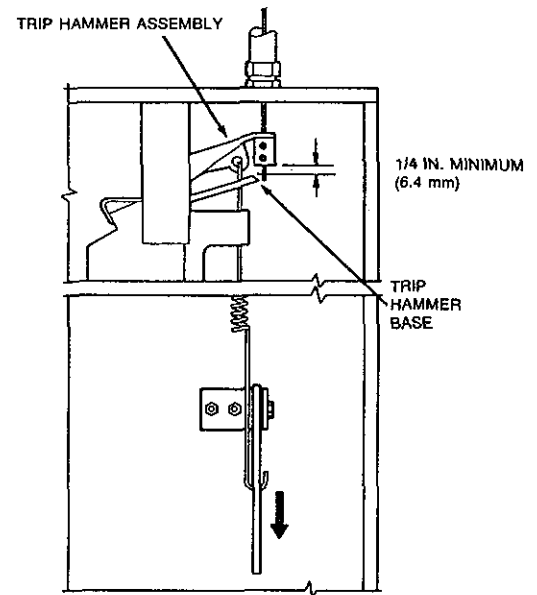

FIGURE 54
16. Lower tension lever to "DOWN" position and inspect the base of wire rope clamping device to make certain that there is a minimum of 1/4 in. (6.4 mm) clearance between the base of trip hammer assembly and cable lever assembly. See Figure 54. (If clearance is not 1/4 in. (6.4 mm) minimum, raise tension lever, loosen set screws on locking clamp and repeat Steps 15 and 16.)